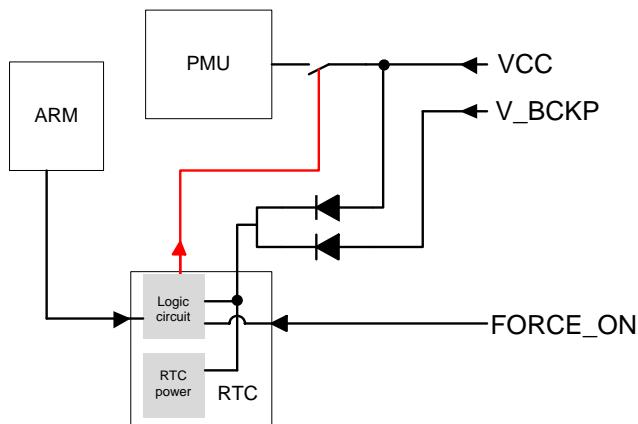

Figure 3: Internal Power Construction
- Send command “\$PMTK225,4*2F” (the signal marked red line opens the switch in **Figure 3**) to enter into backup mode forever. The only way to wake up the module is pulling the FORCE_ON pin high (the signal marked red line closes the switch in **Figure 3**).